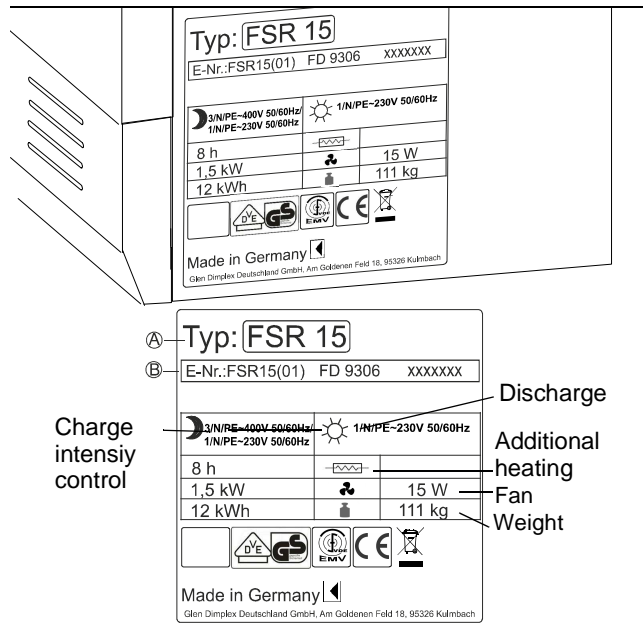

Fig. 32: Type plate on side panel
Before doing this, please ensure you have made a note of the heater type (A), model number (B) and manufacturer's date code (FD). You will find these details on the type plate, on the right-hand side panel. See Fig. 32